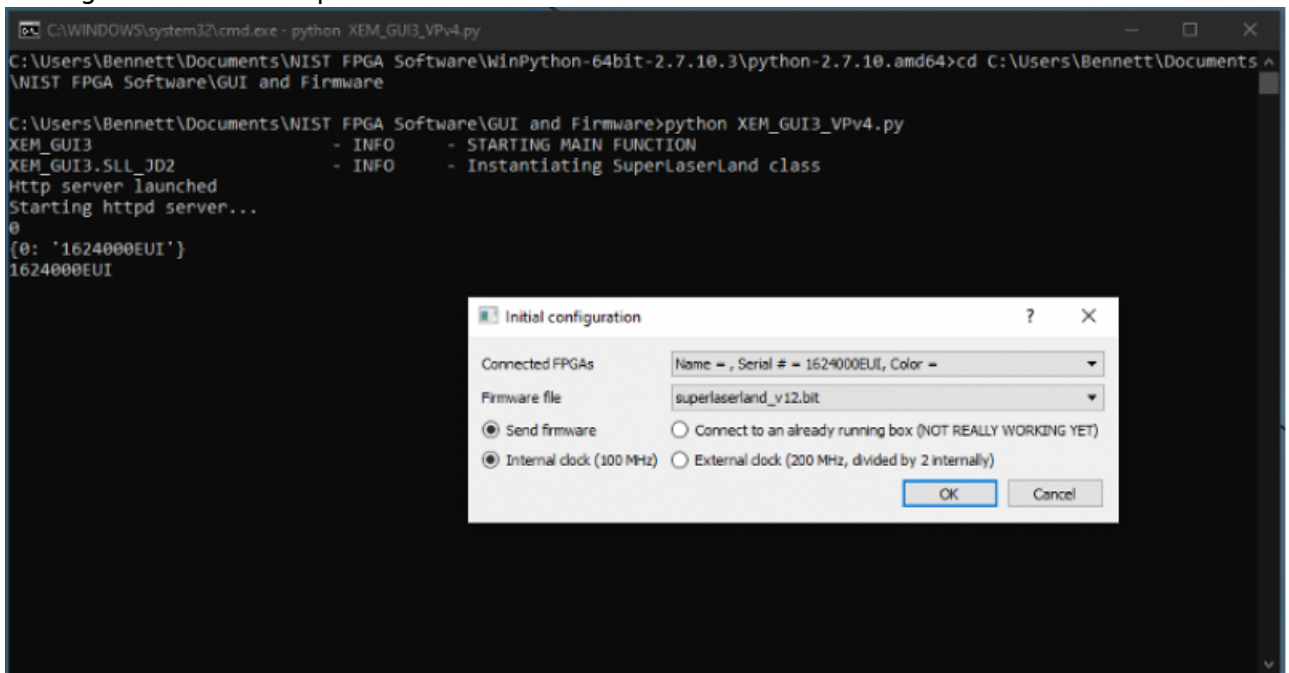

Fig. 2: FPGA GUI Start Screen
3. A start-up menu should appear (figure 2). Make sure “superlaserland_v12.bit” is selected and select an appropriate clock option: internal clock will use the FPGA's on board clock for timing, whereas external clock can be selected to allow synchronization between devices with a separate timing device. If you are unsure which to select, choose Internal Clock. Leave all other settings as default and press OK.